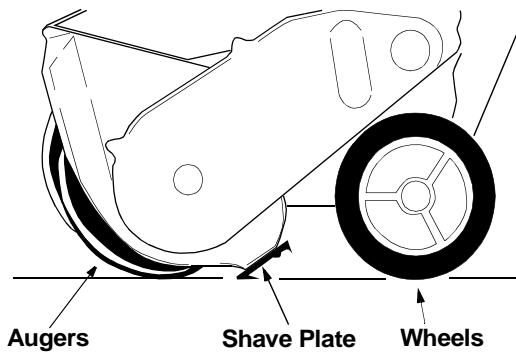

Figure 12
- To check the adjustment of the shave plate, place the unit on a level surface. See Figure 12. The wheels, shave plate and augers should all contact level surface. Note that if the shave plate is adjusted too high, snow may blow under the housing. If the shave plate wears out excessively, or the unit will not self-propel, the shave plate may be adjusted too low.